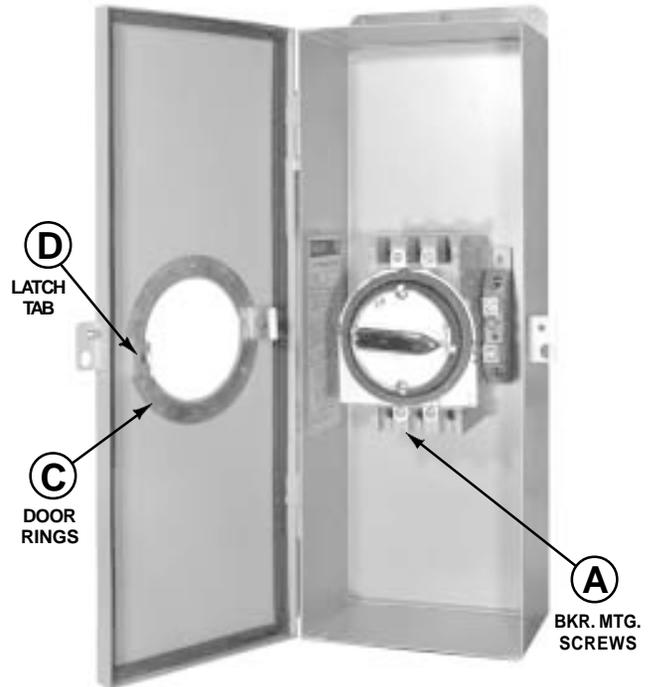

Figure 1 - Typical Installation
3. Position the interior door ring **C** (has latch tabs and threaded holes) as shown in Figure 1. Position the exterior door ring **B** so the flange is toward the inside of the box and gasket. (Failure to do so will void NEMA 12 rating by allowing dust to enter the enclosure.) Loosely secure the exterior door ring **B** to the interior door ring **C** with the three 6-32 x 1/4 screws provided so that it can be centered over the mechanism.